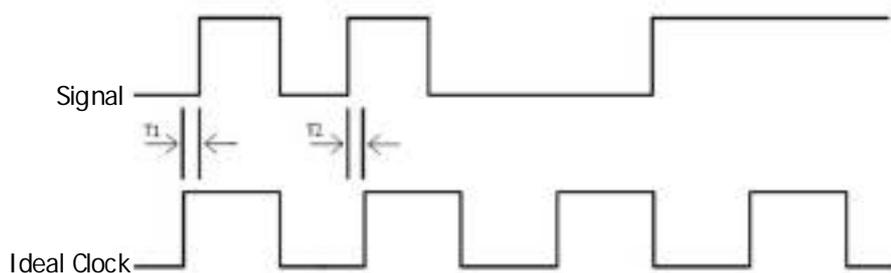

Figure 7-1 Digital Bus Jitter
- ◆ Press **Jitter Reject** to turn on the jitter rejection function. Jitter refers to the short-term deviation of the signal relative to its ideal time position at certain time point, as shown as T1 and T2 in Figure 7-1. When no reference clock is selected for the bus, the jump status of each channel would cause the variation of the bus data and undesired data would be generated due to jitter when the